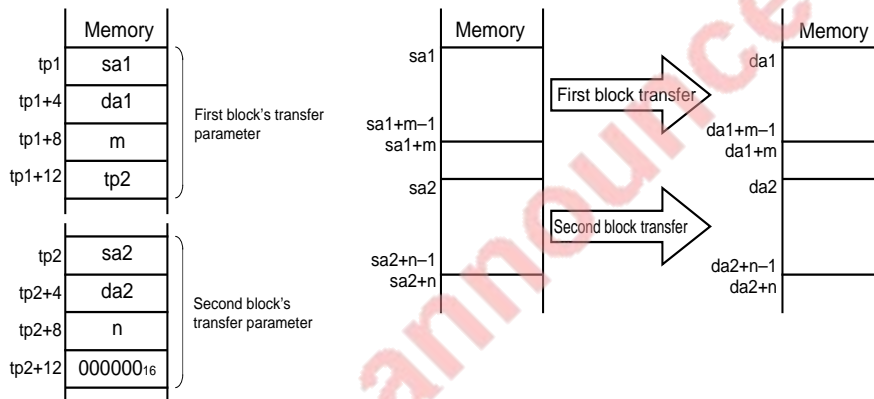

Fig. 13.8.9 Conditions necessary for timings shown in Figures 13.8.7, 13.8.8, and 13.8.10 through 13.8.14
Figure 13.8.6 shows the operation flowchart of the link array chain transfer mode, and Figures 13.8.7 and 13.8.8 show timing diagrams of the link array chain transfer mode (burst transfer mode). In addition, Figure 13.8.9 shows the conditions necessary for timings shown in Figures 13.8.7, 13.8.8, and 13.8.10 through 13.8.14.
Figure 13.8.9 shows the conditions necessary for timings shown in Figures 13.8.7, 13.8.8, and 13.8.10 through 13.8.14.
● The above figure is the example of initial term for processing the first block in "Figure 13.8.9."
- The above figure is the example of initial term for processing the first block in “**Figure 13.8.9.**” When the array chain transfer mode is selected, there is not the term of \*2.
- The above figure is the example of the second 1-unit transfer for processing the first block in “Figure 13.8.9.”
- The above figure is the example of the last term for processing the first block in "Figure 13.8.9."
- The above figure is the example of the last term for processing the second block in “Figure 13.8.9.”